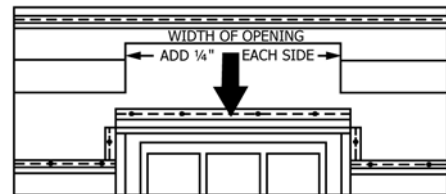

FIG. 16 Installation Over Window or Door
9.3.7 Over a window or door, measure for the cuts. Mark the bottom portion of the panel and cut out the unwanted section. Install the panel. (See Fig. 16.) If necessary, place a piece of furring into the J-channel behind the cut edge of the siding to reduce wind movement and maintain the proper plane of this siding. Leave enough gap at the top of the cutout to permit locking onto the previous course.